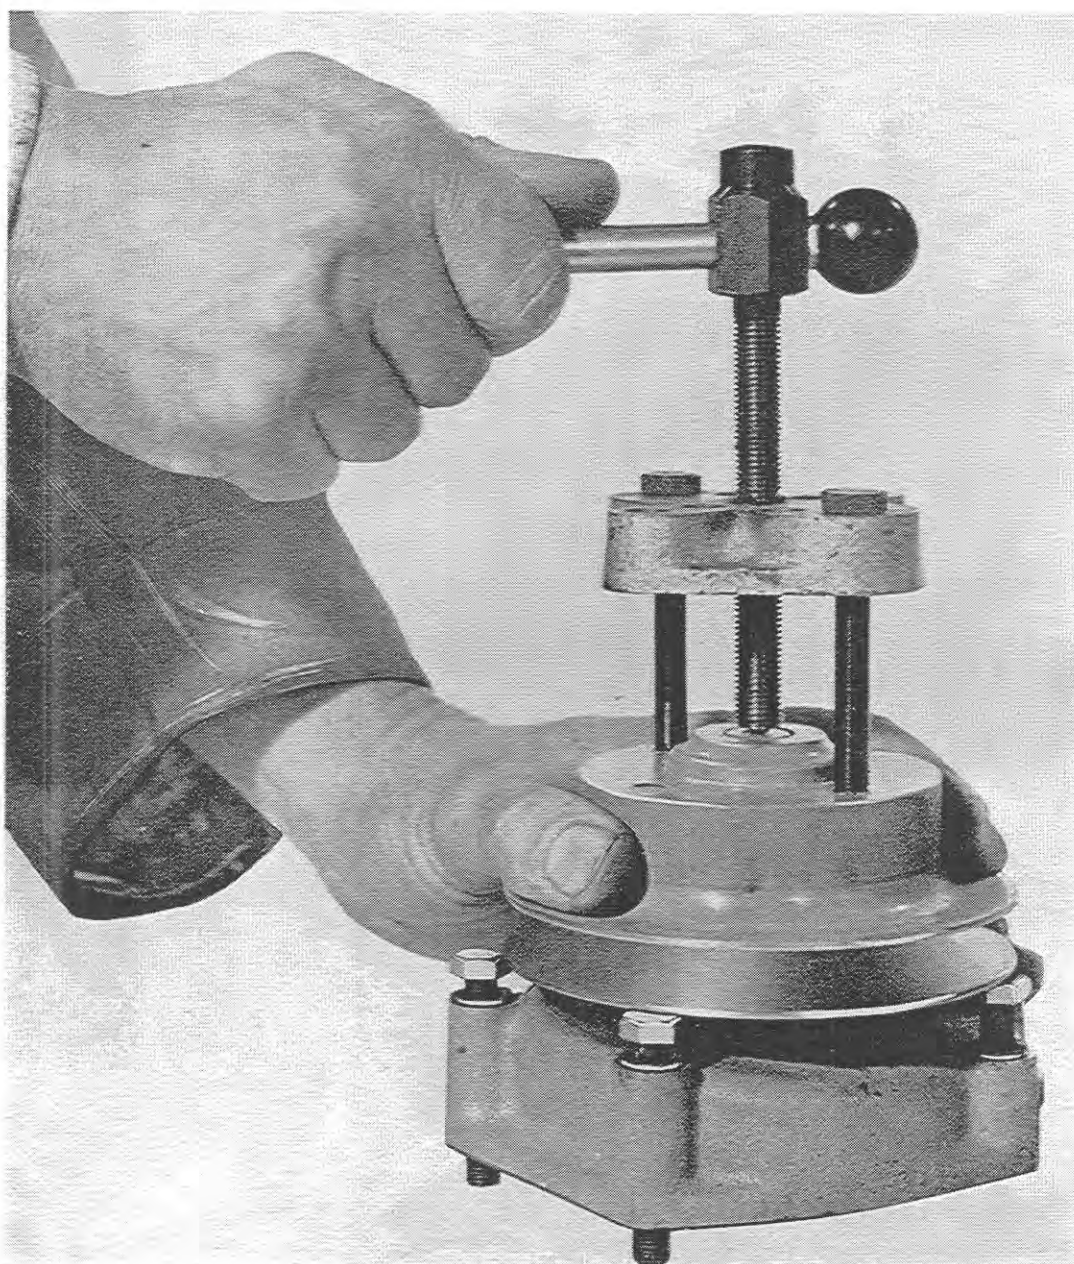

Fig. 2
- 1) Remove the drive pulley with a hub puller (Fig. 2).